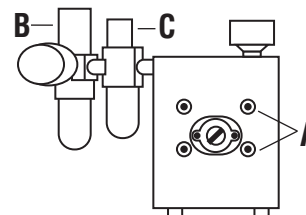

Fig. 1 Front view of drive
2. Install pressure gauge, pressure regulator/lubricator/filter assembly (B, C) and muffler (D). See Figures 1 and 2 for proper orientation. (All items and fittings included.) Use thread seal for all connections to reduce the possibility of air leakage.